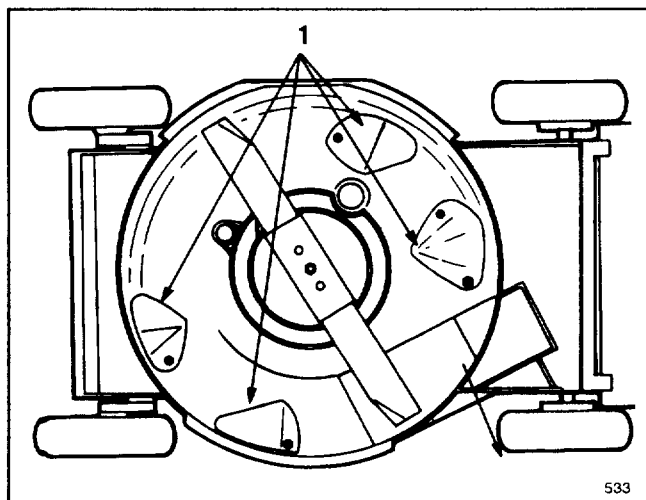

Figure 5
- Four "kicker plates" positioned on the underside of the mower deck in strategic positions (Fig. 5)